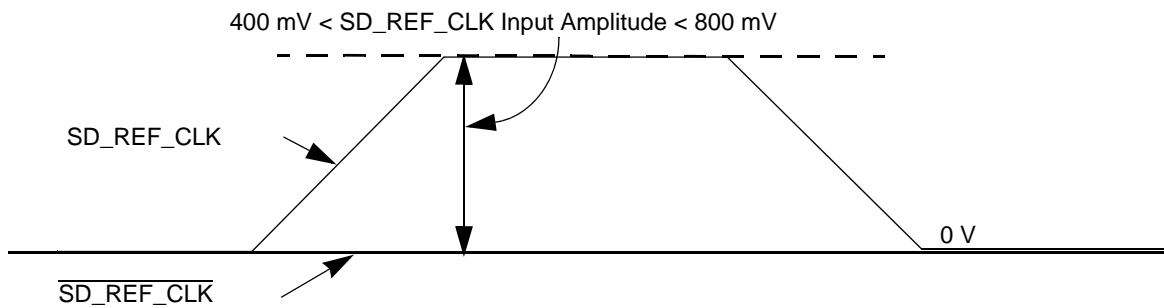

Figure 41. Single-Ended Reference Clock Input DC Requirements
- The SD\_REF\_CLK input average voltage must be between 200 and 400 mV. Figure 41 shows the SerDes reference clock input requirement for single-ended signaling mode.